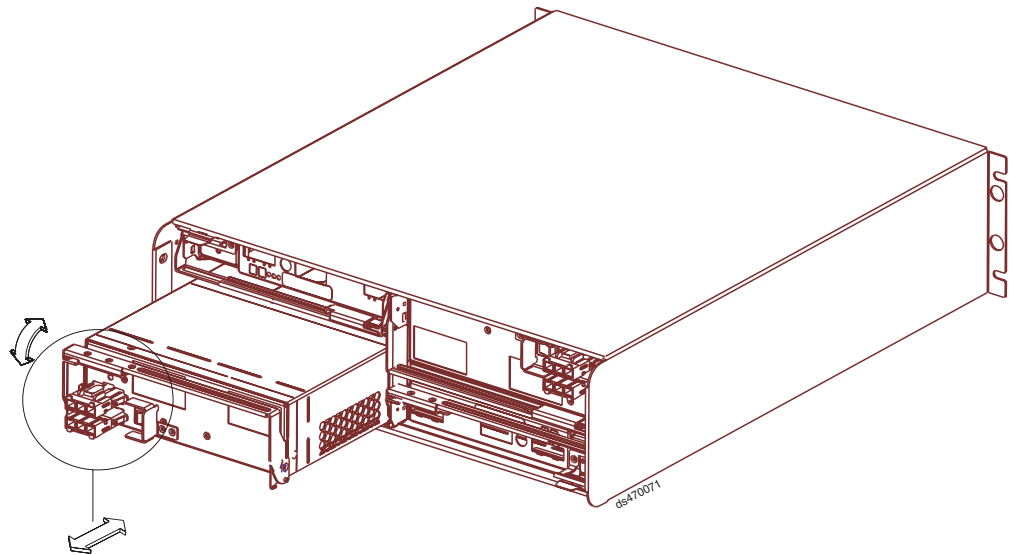

Figure 20. Removing a DC power supply and fan unit
2. Slowly pull the lever away from the chassis to remove the DC power supply and fan unit, as shown in Figure 20 on page 39.